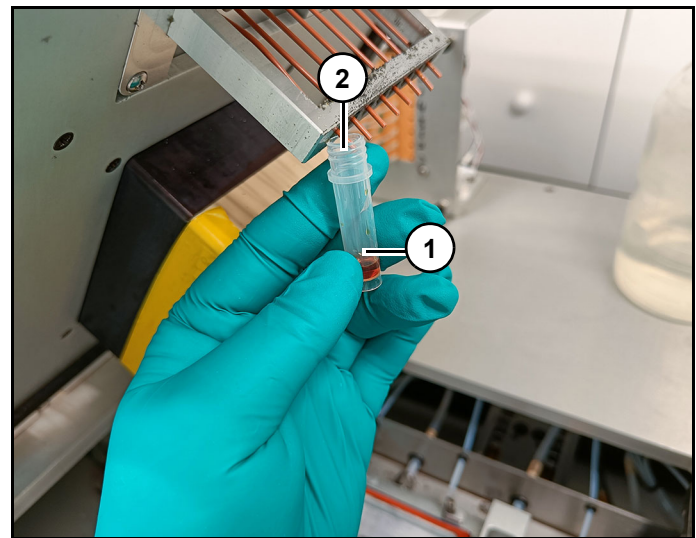

Figure 14
When performing valve calibration it is easier to unlock and raise Injection Head so that injection lines are more accessible (Figure 14).
5. Place 2ml tube (1) under correct injection pin (2) with lid open. (Figure 14)